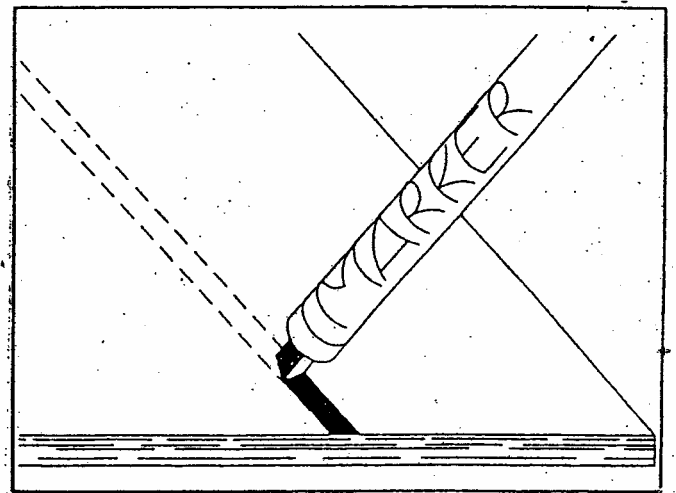

Figure 19
1. Paint the substrate joint with a marking pen to camouflage the seam. See Figure 19.